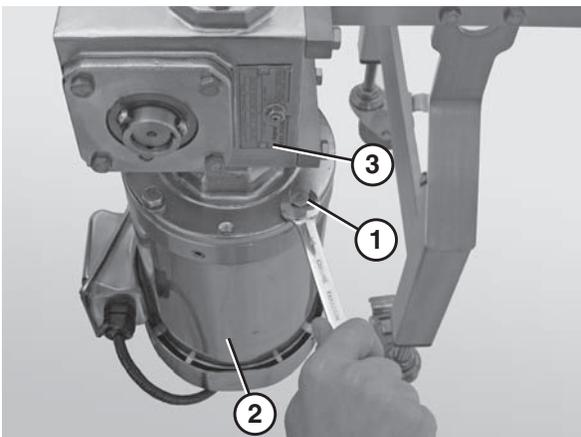

Figure 59
- Remove the bolts (**Figure 59, item 1**) that connect the motor (**Figure 59, item 2**) to the gear reducer (**Figure 59, item 3**) and remove the motor (vertical mount drive package shown).